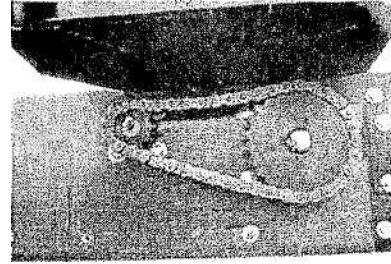

Fig. 4-1 Inspect the chain and adjust the chain tension
3.) Inspect the chain drive sprockets located at the top end of the conveyor (see Fig. 4-1).on the inside of the conveyor frame, for true alignment and correct chain tension. Realign the sprockets and tighten the set of screws as necessary. Press the chain with your thumb midway between the sprockets. You should be able to move the chain about $\frac{1}{2}$ inch with thumb pressure. Tightening the chain too tightly can damage the bearings. Lubricate the No. 60 roller chain on the chain drive. (CM) recommends a multi-purpose lubricant such as a lithium-based spray grease.